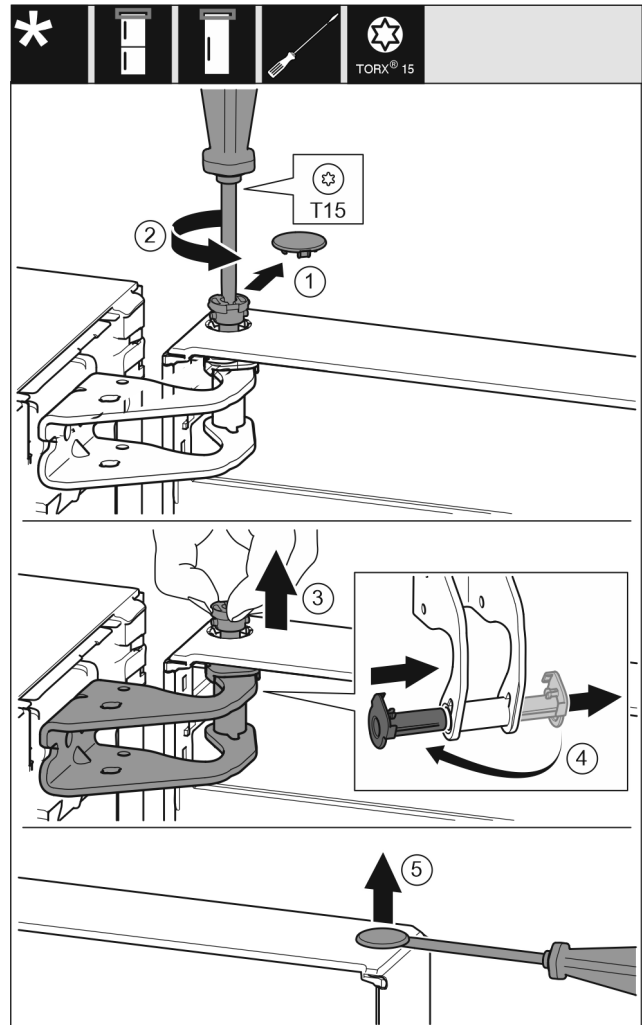

Fig. 8
- ▶ Carefully remove the protective cover. Fig. 8 (1)
- ▶ Loosen the bolts slightly with a T15 screwdriver. Fig. 8 (2)
- ▶ Hold the door and remove the bolts with your fingers. Fig. 8 (3)
- ▶ Pull the bearing bush out of the guide. Insert from the other side and latch into place. Fig. 8 (4)
- ▶ Carefully lift the plugs out of the door bearing bush with a slotted screwdriver and remove them. Fig. 8 (5)